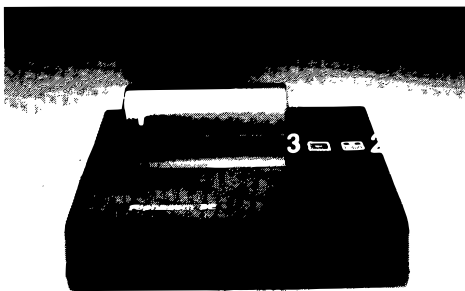

Figure 1
Figure 1 illustrates the major components of the printer. The paper cover (1) is hinged to permit a roll of paper to be loaded and positioned.